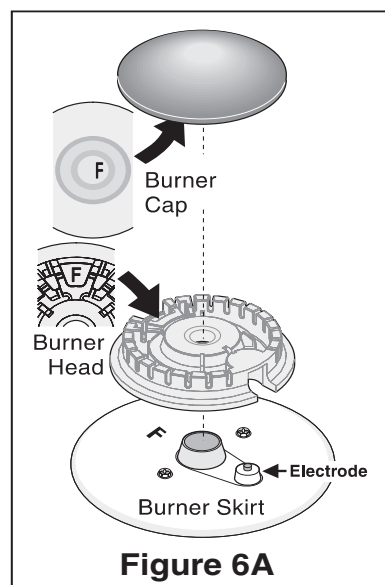

Figure 6A
1. Remove all packing tape from cooktop. Remove Burner Caps and Burner Heads (See Figure 6A).
3. To correctly place Burner Heads & Caps, match the letters located under center of Burner Caps with the letters located inside Burner Head (See Figure 6A).